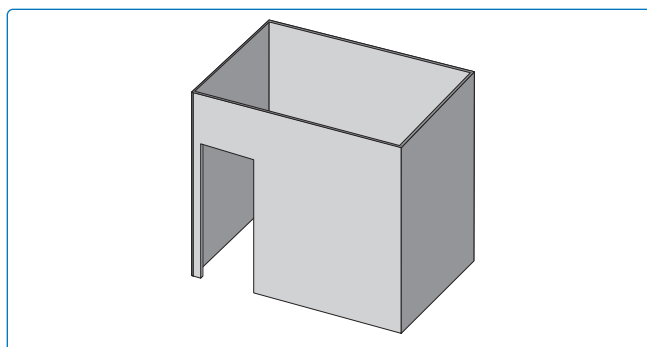

Fig. 1
- Enclosure with three walls and no overhead cover (**Fig 1**).